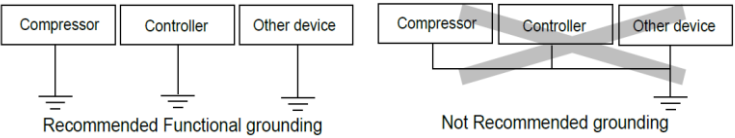

Figure 6
- The ground point should be near this controller to make the wire length shorter. See Figure 6. below for reference.